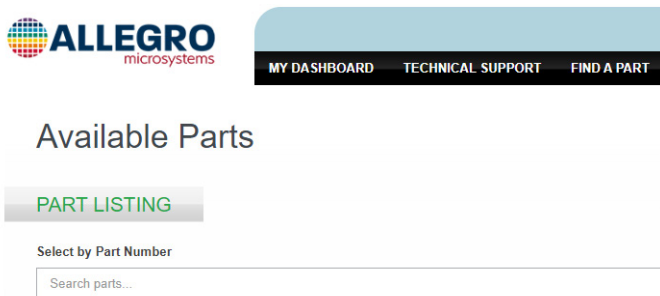

Figure 4: Select by Part Number on the Available Parts and Software Page
5. In the select by part number search bar (shown in Figure 4), search for ACS37610.